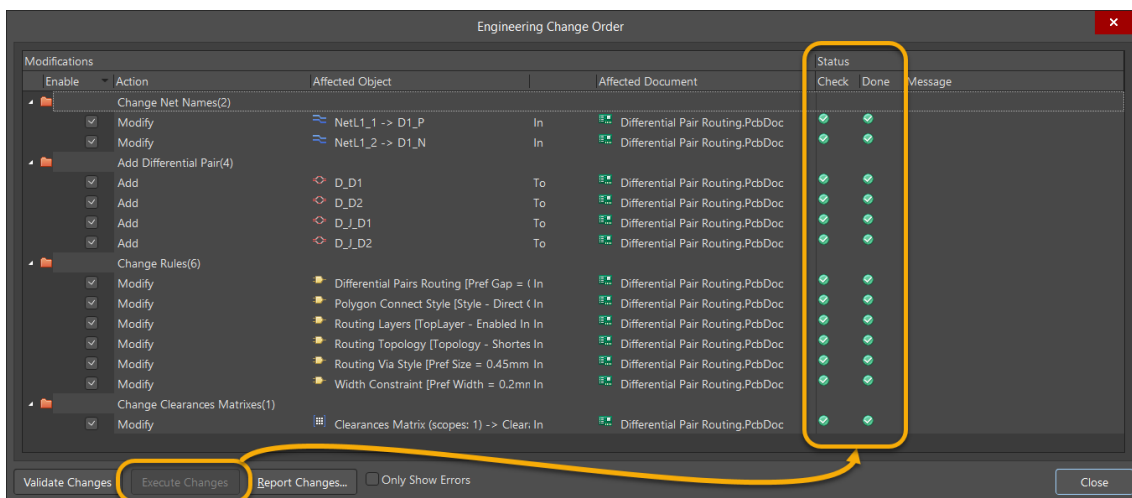

Figure 10. Engineering Change Order
32. Select **Execute Changes** to transfer the schematic updates to the PCB document, Figure 10.